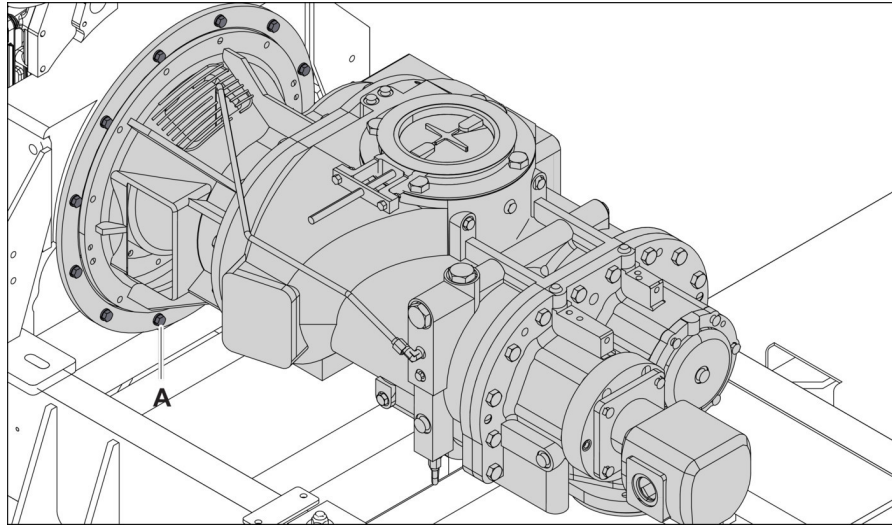

Figure 10
15. Remove all 12 cap screws (Figure 10, item A) connecting the compressor to the engine housing. Store the cap screws aside for installation.